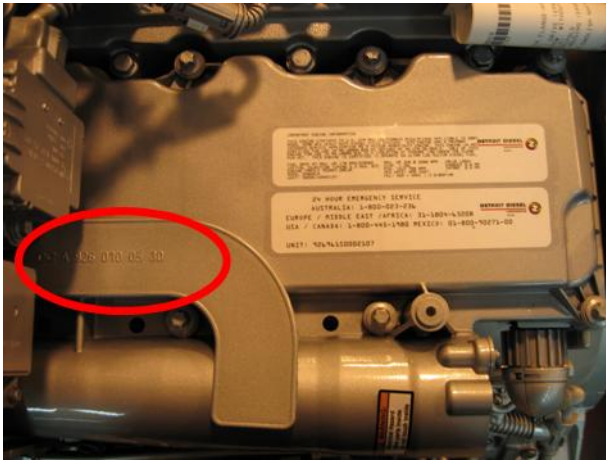

Figure 1 – Location of Electrostatic Oil Separator Part Number
- Verify the electrostatic oil separator has been updated. The part number on the rocker cover should be P/N: A9260100530. See Figure 1. If the separator needs to be changed, email the Detroit Diesel Customer Support Center at csc@detroitdiesel.com. The new parts will automatically be sent to you free of charge.